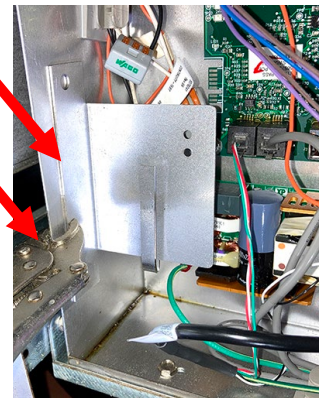

Figure 34
31. Position the modem bracket as shown on the lower left side of the FIB box. Note the position in relation to the power supply and the FIB board. Temporarily secure with vise grips (see Figure 34).